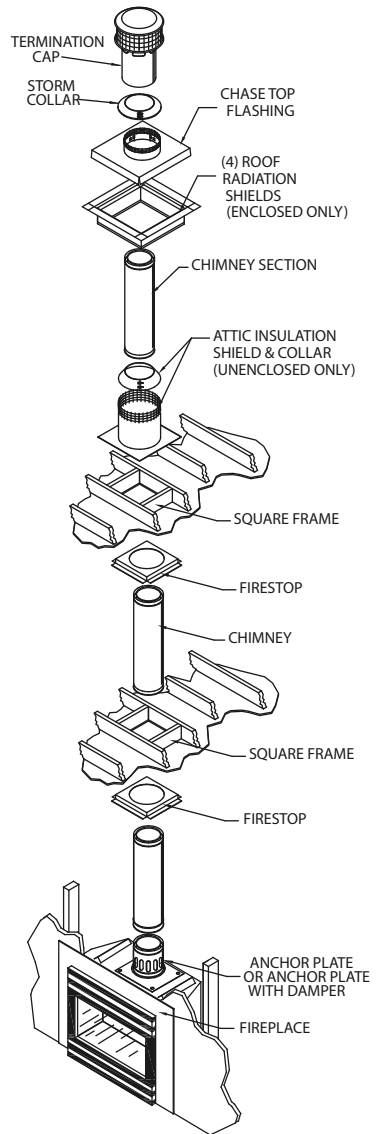
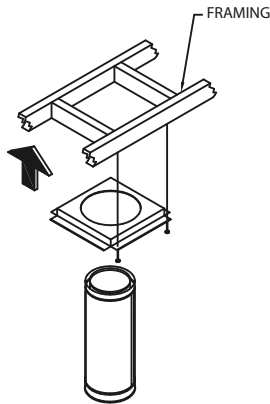

Figure 4
Figure 5
4. Frame Openings: From the ceiling, drop a plumb bob to the center of the fireplace's flue outlet and mark this center point on the ceiling. Refer to **Table 1** for the framing dimensions. Mark appropriate cutting lines around the center point. Cut a square hole in the ceiling. Frame a level, square opening centered over the hole that you have cut. Frame openings at each floor level above the Fireplace (**Fig. 4**). These openings are to hold the Firestop and Attic Insulation Shield. Locate each opening by dropping a plumb bob to the four corners of the opening below. Maintain the minimum 2-inch clearance/air-space.
6. Install Firestop: A Firestop is required on each floor penetration in multistory installations. Building Codes require a Firestop at every floor/ceiling level, including where the chimney penetrates into the attic. **Figure 4** shows a typical 2-story installation with an attic. **Note:** a Firestop is not installed where the chimney penetrates through the roof. The Firestop is installed on the underside of the ceiling/floor framing (**Fig. 5**). Use a minimum of either one (1) 8-penny nail or one (1) #8, 1-1/4" wood screws per corner.